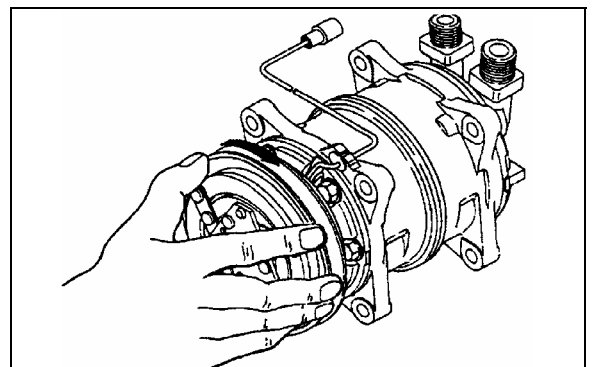

FIGURE 41: ROTATING MAGNETIC CLUTCH
- * Slowly rotate the compressor's magnetic clutch several times by hand to distribute the oil which has settled in the cylinders (Refer to figure 41).